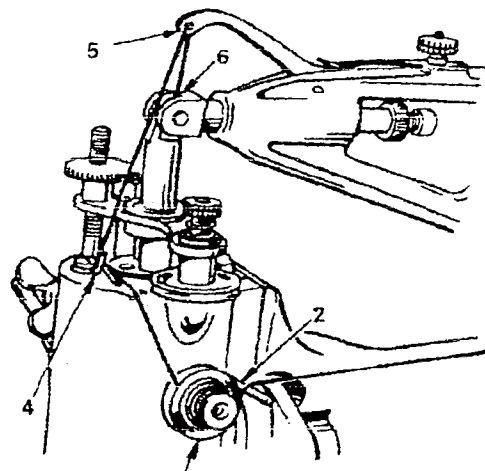

Fig. 22
3. Pass thread over the pin 2 near the tension discs in front of the arm and from right to left under and between the tension discs 3, Fig. 22.